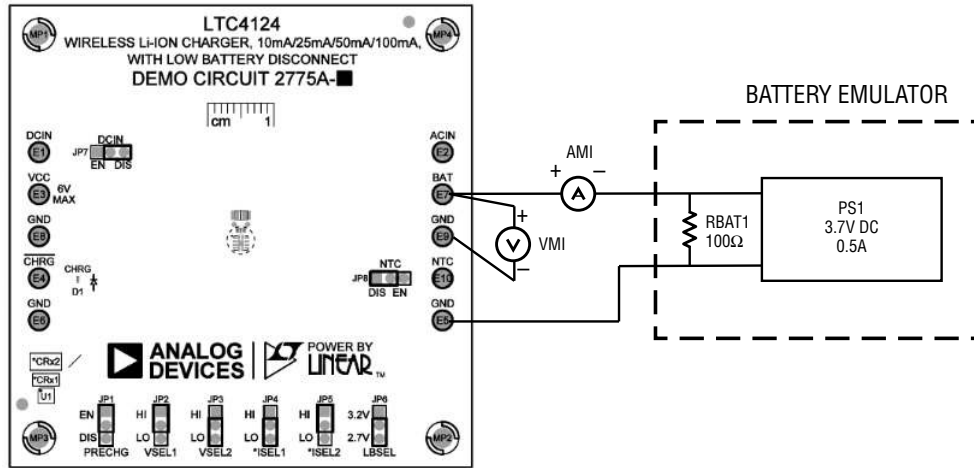

Figure 4. DC2775A-B Top
Refer to Figure 4 to Figure 7 for the proper measurement equipment setup, DC2775A-B mounting on DC2771A-B, and follow the procedure below:
3. Connect a voltage source PS1 and a 100 $\Omega$  resistor RBAT1 between the BAT and GND turrets of DC2775A-B, respectively (Figure 4). PS1 and RBAT1 make up the battery emulator. Typical power supplies cannot sink current. By adding a resistor across the power supply inputs that draws more current than the maximum battery charging current, the power supply only sources current even when the battery charge current is at its maximum value.
6. DC2771A-B.D1 LED should be turned on. DC2775A-B.D1 LED should start blinking intermittently. AM1 should be reading 25mA. If the AM1 meter reads much less than 25mA, read VM1 and check whether LTC4124 is in constant current mode (Figure 4).